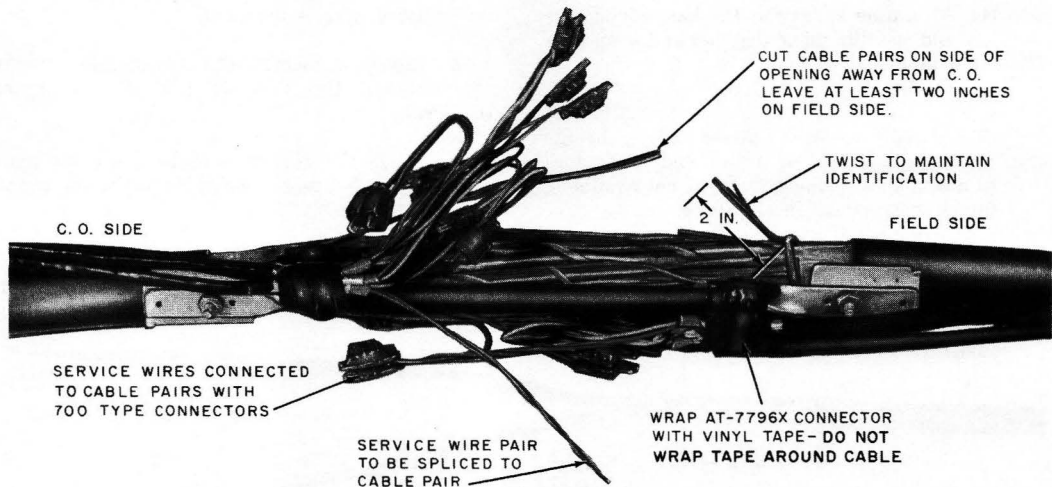

Fig. 5—Splicing Cable Pairs—13-Type Closure
3.03 Splice the service wire to the cable pairs using 700-type connectors **only**, as shown in Fig. 5 or 6.¶